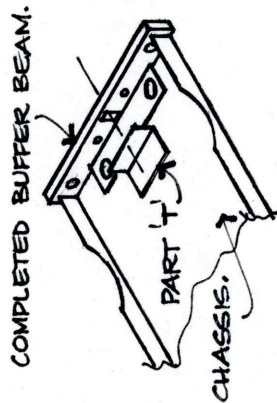

FIG. C3.
23. The photo shows a brace at about 45° going from the bottom of the vertical truss rod support, back to the underside of the floor. If you are going to finish off the underfloor framing, now is the time to do it, because the brace would have to be attached to it, but if not, put the brace in now. Any framing that does go in, say about 8" x 4" timber, styrene etc., would look good and also provide support for any tanks and other floor fittings (I do not know) that may be required. See item 28.
24. Take Part T from the fret, cut off the little wings (That was my attempt to provide springing for the buffer, but it didn't work), fold up and attach under the chassis, in the position marked on the end of the carriage. (Fig. C3) Please do not spoil this model by fitting 'Kadees'. If you do, I do not want to know and you are on your own from here.